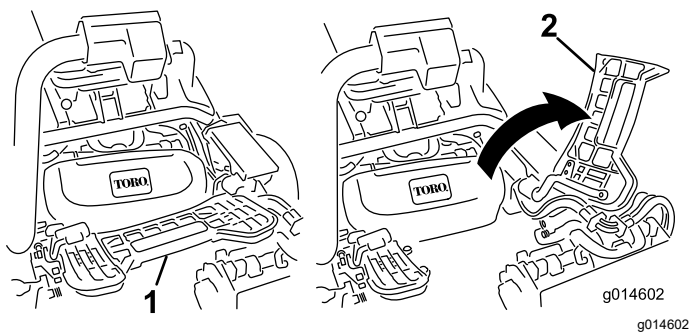

Figure 64
2. Lift up on the foot rest and swing it open, allowing access to the center cutting unit position (Figure 64).